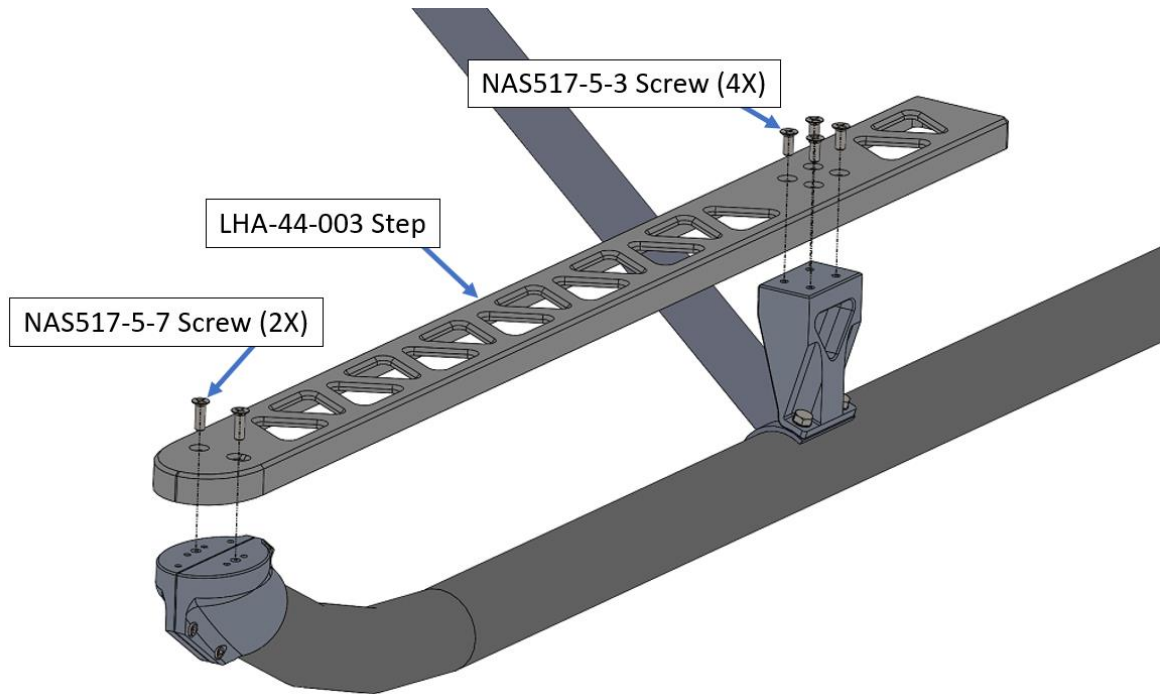

Figure 6. Installation of the LHA-44-003 Step onto the Forward and Aft Attachment Brackets
6. Attach the LHA-44-003 Step onto the Forward and Aft mounting brackets using the supplied NAS517-5-3 and NAS517-5-7 countersunk screws. Attach screws with Phillips Head Screwdriver. Install fasteners hand tight. Figure 6 shows the mounting locations on Skid Tube Step and unit as assembled.